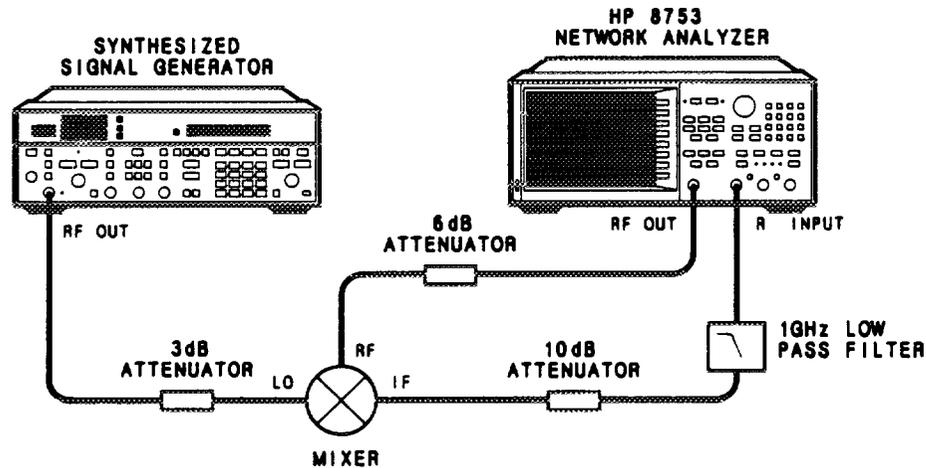

Figure 14-5. Typical Test Setup for a Frequency Offset Measurement
Figure 14-5 shows a typical test setup using frequency offset mode. Instructions are provided in *Using Frequency Offset Mode*. The attenuators shown reduce mismatch uncertainties. The low pass filter keeps unwanted mixing products out of the HP 8753 sampler.
1. Press **[PRESET]** on the front panels of the analyzer and local oscillator (LO) source.
2. Press **[FREQ OFFS on OFF]** to activate the frequency offset mode. Connect the equipment as shown in Figure 14-5.